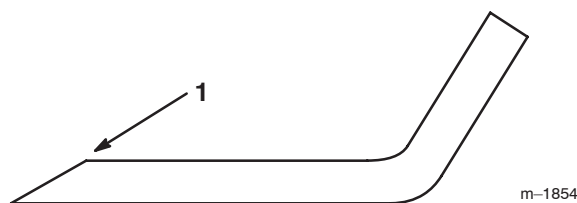

Figure 39
1. Use a file to sharpen the cutting edge at both ends of the blade (Fig. 39). Maintain the original angle. The blade retains its balance if the same amount of material is removed from both cutting edges.